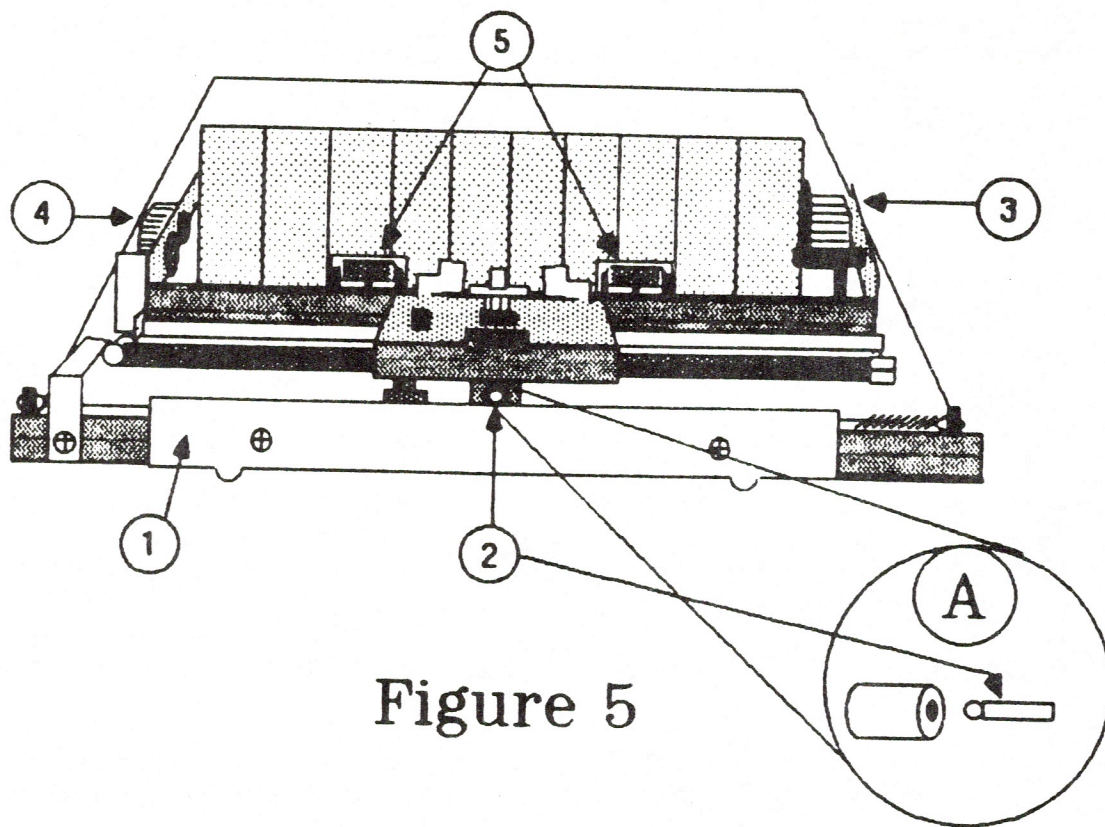
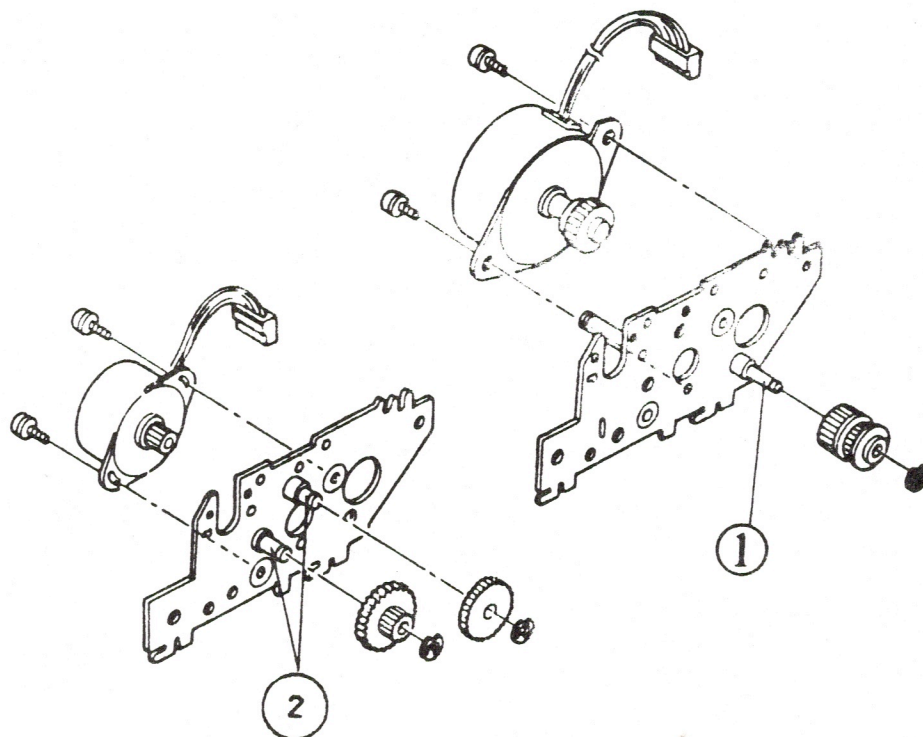

Figure 5
Figure 6
9. **Clean the front guide bar** with a clean cloth moistened with alcohol. (See Figure 5, #1.)
10. **Clean and lubricate the carriage bearing stud** (Figure 5, #2 and detail A) as follows:
11. **Clean and lubricate the idler gear stud on the carriage drive motor** (Figure 6, #1: for location see Figure 5, #3) as follows:
12. **Lubricate the idler gear studs on the paper feed motor** (Figure 6, #2: for location see Figure 5, #4) as follows:
- b) Remove the two feed rollers (Figure 5, #5) from the paper pan.